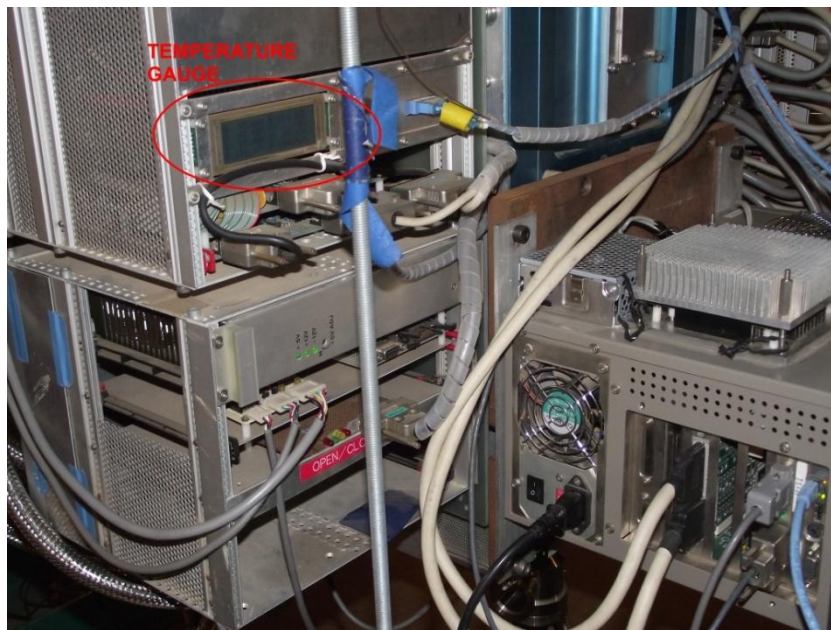

Figure 20: Instrument layout showing Temperature Gauge Display
1. Read the small LCD meter on the instrument itself (See Figure 20)